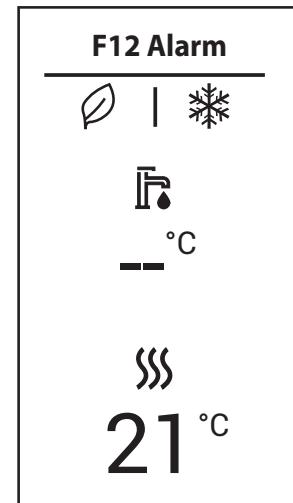

fig. 6
**Message-type fault (fig. 6):** The fault is such as not to compromise boiler operation. The message disappears when the problem is eliminated.